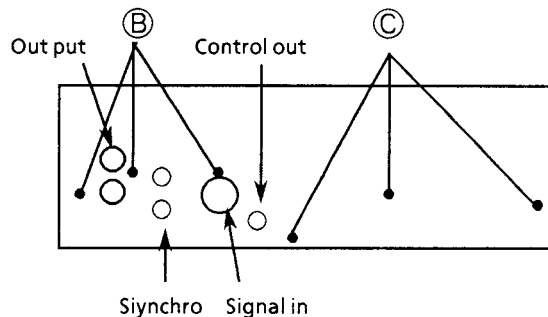

Fig 2. Rear View
(3) Removing the Rear panel(Fig.2)